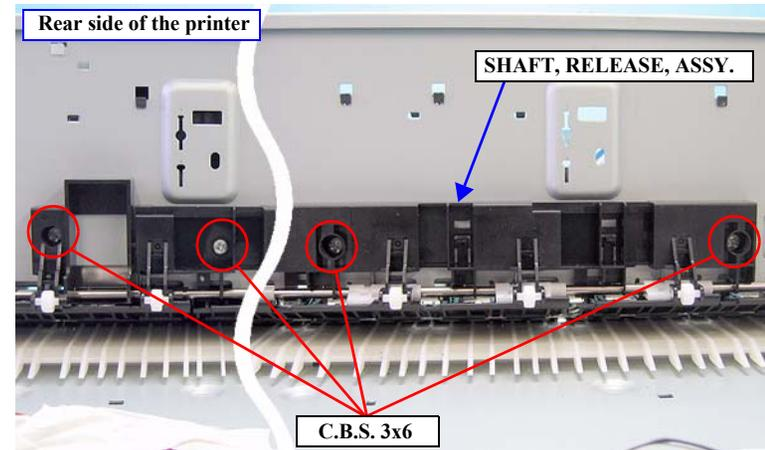

Figure 4-159. Removing the screws from the SHAFT, RELEASE, ASSY.
4. Remove the four screws that secure the SHAFT, RELEASE, ASSY. See Figure 4-159.